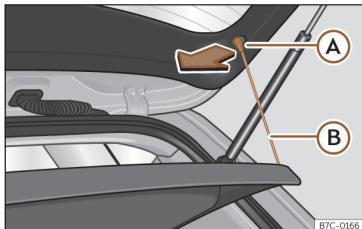

Fig. 152 In the boot: removing and installing the shelf.
- Detach the cord loops >>> **Fig. 152** **(A)** from their hooks **(A)**.
- Attach the securing straps >>> **Fig. 152** **(B)** onto the rear lid.